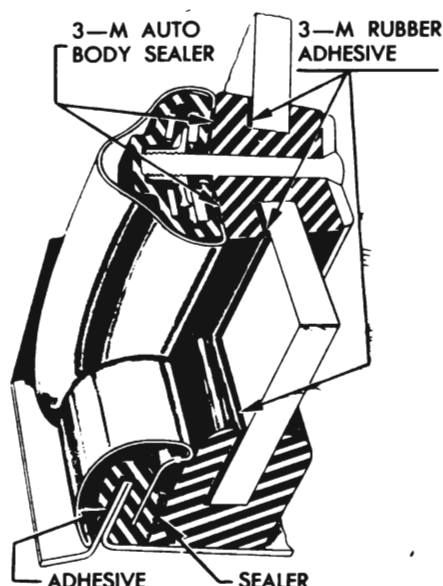

Figure 13-29—Location of Sealing Compounds
2. Apply a ribbon of 3-M Rubber Adhesive (par. 13-4) with the nozzle of the sealing gun up under the lip of sealing channel all around the windshield opening and under both top and bottom ends of the center division section. See figure 13-29.
4. Lay a ribbon of 3-M Auto Body Sealer in the enclosing lips of the reveal molding sealing channel where wrapped around the center division bar. The sealer should extend the full length of the division bar. Also lay a heavy bead of this sealer on the rear side of the sealing channel entirely around the windshield opening. See figure 13-29.